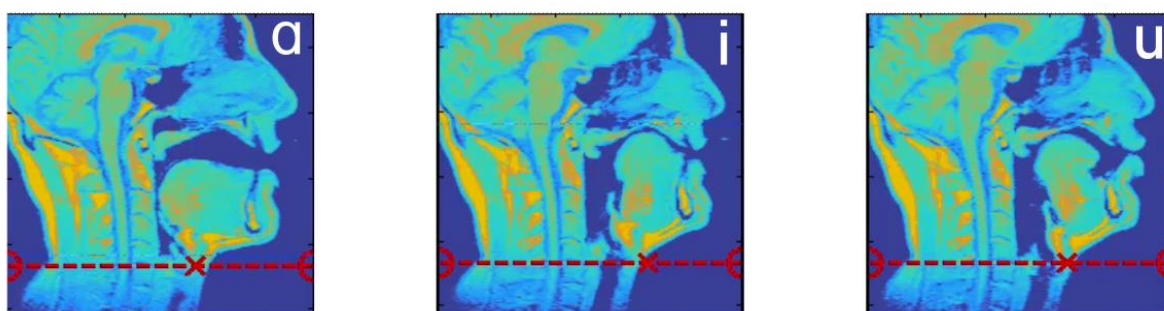
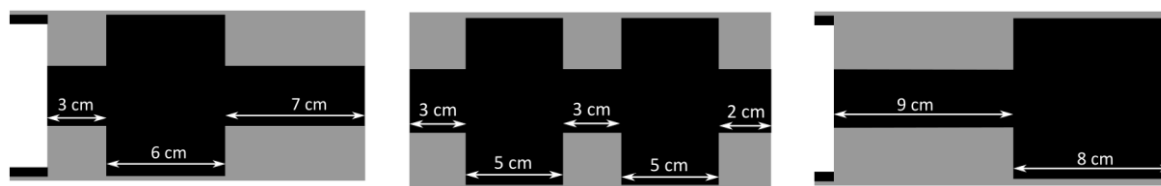

Figure 5.3.1 MRI scans of a person pronouncing the vowels /a/, /i/ and /u/. The vocal cords are on the red line.
Figure 5.3.2. Blueprints of the model vowel resonators that you will have to make.
Each vowel produced is obtained by changing the shape of the oral cavity and this shape in turn determines the formant frequencies. The shape of the cavity is, of course, very complicated, but it can be modelled by cylinders of different diameters to approximate this shape (see figure 5.3.2). Below (Figure 5.3.1.) are MRI scans of a human pronouncing three vowels: /a/ - like in "father", /i/ - like in "meet", and /u/ - like in "book".
1. Use a model vowel resonator blueprints (see figure 5.3.2).